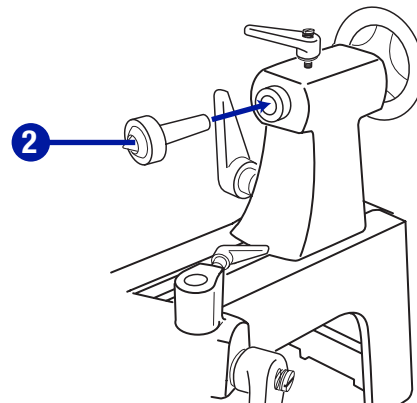

Fig. 6
- Insert the shaft of the tailstock cup centre (2) into the hollow centre of the tailstock spindle (Fig. 6).